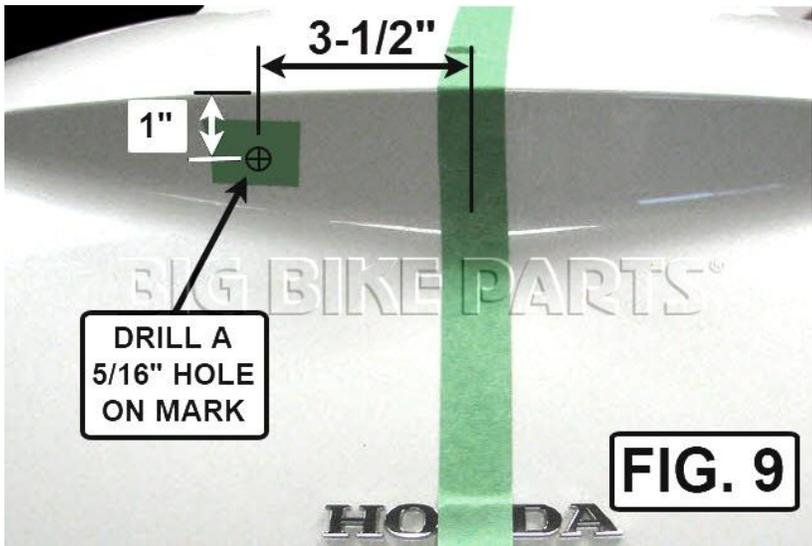

FIG. 9
14. PLACE MASKING TAPE AND MARK THE HOLE TO BE DRILLED ACCORDING TO FIG. 9.